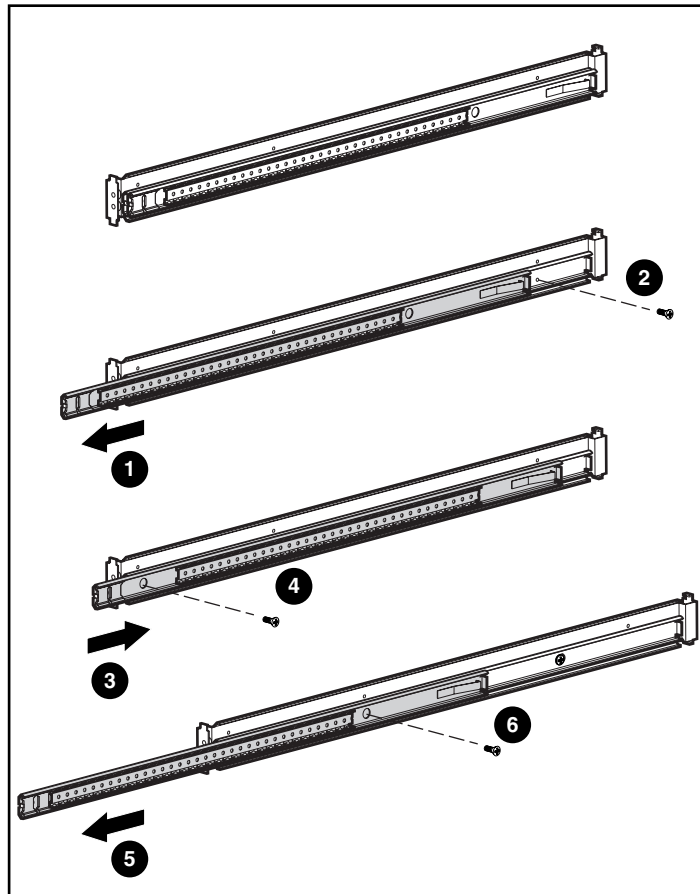

Figure 2-9. Steps for attaching the outer bracket rail to the rack-mounting bracket
2. Fully extend the inner slides from the front of each outer bracket rail ❶. With these pieces extended, a screw hole toward the rear aligns in the rack-mounting bracket and the outer bracket rail for each assembly.
3. Fasten the outer bracket rail to the rack-mounting bracket with an 8-32 x 1/4-inch slotted screw. Refer to Figure 2-9, Step ❷.
5. Push in the inner slide on each set ❸ until only 1 1/2-inches of the slide remains extended. Push in the locking clip on the slide if it keeps the rail from sliding in. This allows access to the next screw hole. The hole is toward the front of the outer bracket and aligns through the outer bracket rail and the rack-mounting bracket.
6. Use one more 8-32 x 1/4-inch slotted screw to fasten the outer bracket rail to the rack-mounting bracket ④. See Figure 2-9.
7. Refer to Figure 2-9 and repeat Steps ① through ④ for the second assembly.
9. Fully extend toward the front the ball-bearing slide located in the inner slide ⑤. With these pieces extended, a screw hole toward the center aligns in the rack-mounting bracket and the outer bracket rail for each assembly.
10. Fasten the outer bracket rail to the rack-mounting bracket with an 8-32 x 1/4-inch slotted screw. Do not use nuts or washers with the screw. Refer to Figure 2-9, Step ⑥.